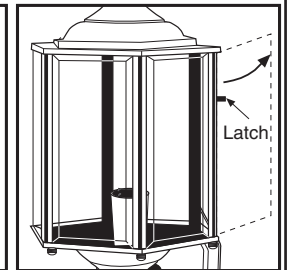

Figure 4
- c. For fixtures with a hinged door, simply lift latch to open door. Insert bulb(s) and secure door closed with latch. (see figure 4)